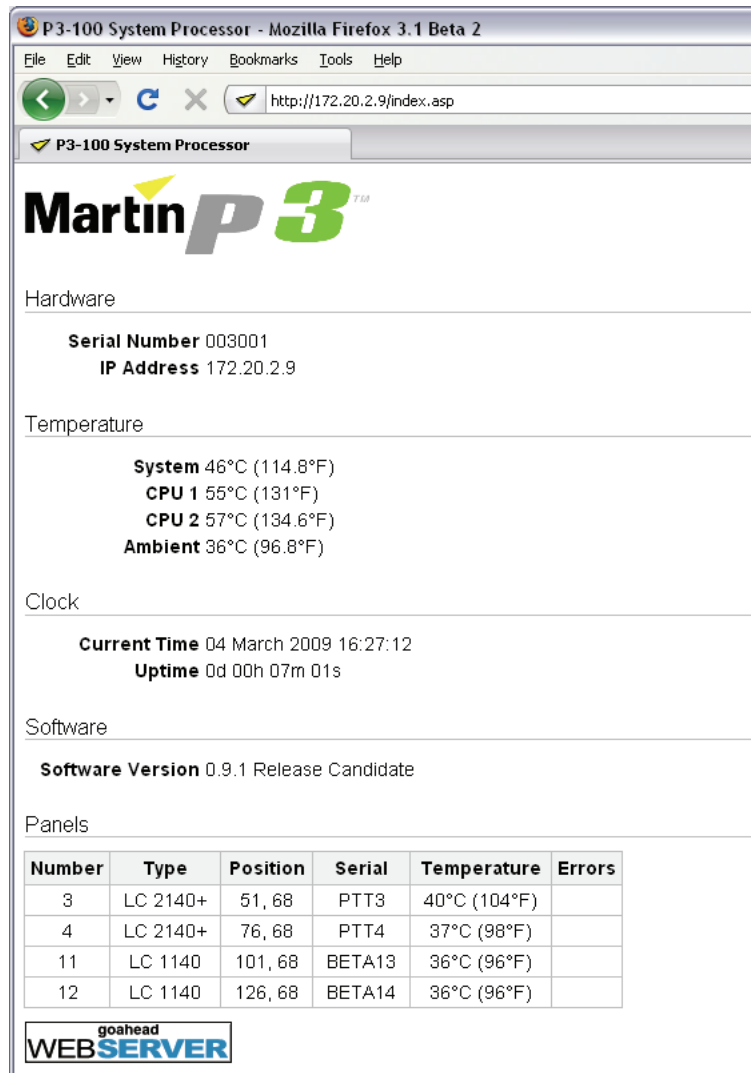

Figure 31: System info via network
4. Start a web browser on a PC on the network and open the address **http://** followed by the IP address shown under **Web Server** in the **Hardware Settings** window. This connects you to the P3-100 and opens a webpage containing status information for the P3-100 and all connected panels (see Figure 31).